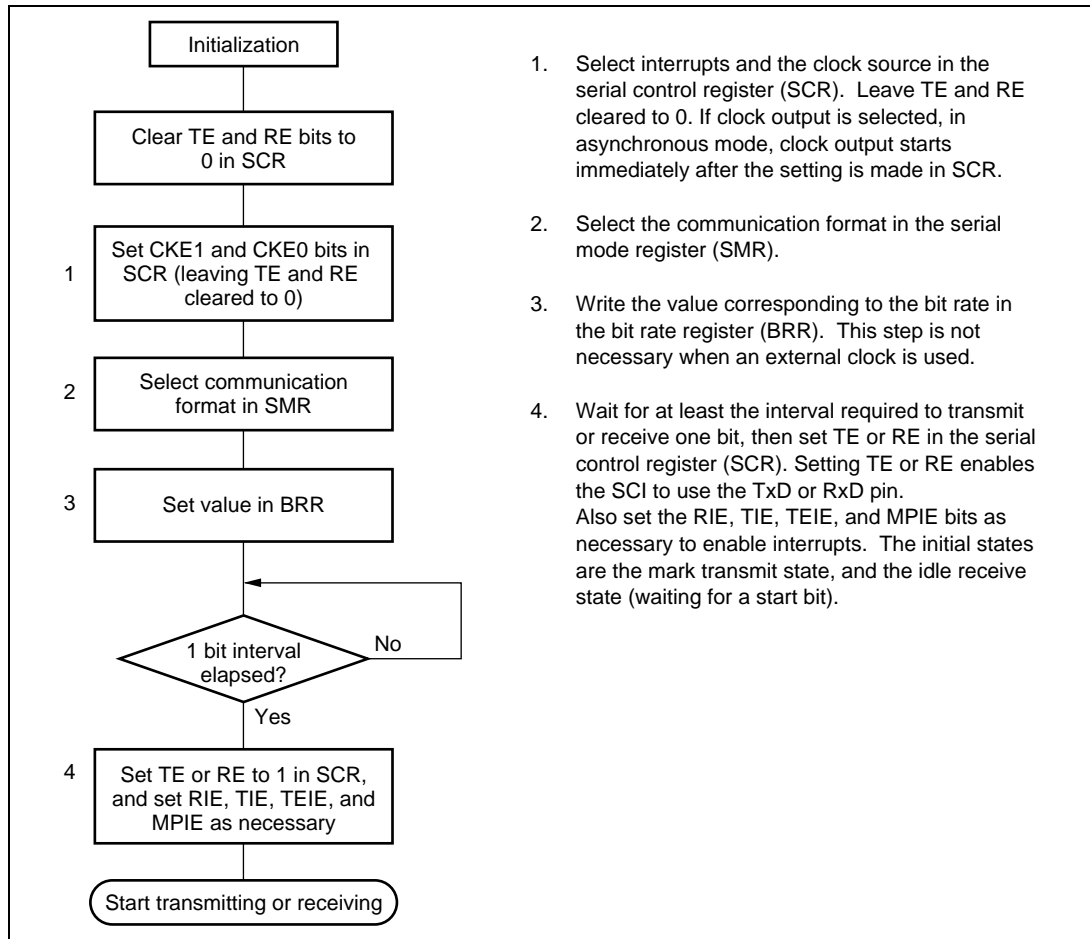

Figure 12-4 Sample Flowchart for SCI Initialization
— **SCI Initialization:** Before transmitting or receiving, software must clear the TE and RE bits to 0 in the serial control register (SCR), then initialize the SCI following the procedure in figure 12-4.
(2) Transmitting and Receiving Data
- **SCI Initialization:** The SCI must be initialized in the same way as in asynchronous mode. See figure 12-4. When switching from asynchronous mode to synchronous mode, check that the ORER, FER, and PER bits are cleared to 0. Transmitting and receiving cannot begin if ORER, FER, or PER is set to 1.